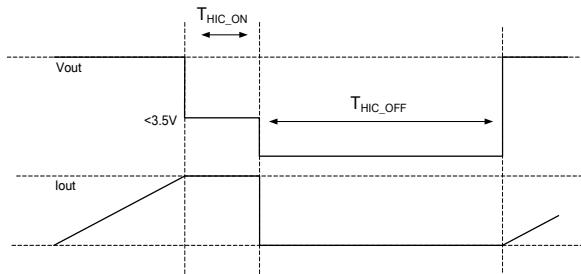

Figure 4: Over-Current Protection
For the current limit setting, refer to the Current Limit vs.  $R_{\text{Limit}}$  curve on page 6. If the set current limit is less than 500mA, the current limit accuracy worsens slightly. An external  $R_{\text{Limit}}$  resistor can set the current limit threshold. If an over-current (OC) condition occurs but  $V_{\text{OUT}} > 3.5\text{V}$ , the MP5030D works in constant-current (CC) limit mode without hiccup. If OCP is triggered and  $V_{\text{OUT}} < 3.5\text{V}$  for 2ms, the MP5030D enters hiccup mode. In hiccup mode, the MP5030D turns off the power MOSFET (see Figure 4).